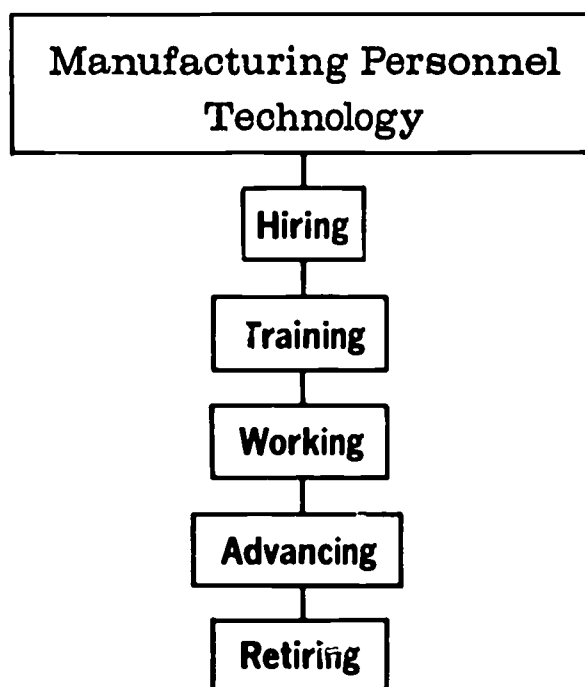

Fig. 4-6. Manufacturing personnel technology has five functions.
In manufacturing, *personnel technology* is the name given to (1) hiring, (2) training, (3) working, (4) advancing, and (5) retiring workers, Fig. 4-6. The technology of personnel work, then, is called the science of *hiring, training, working, advancing, and retiring*. Your mother finds jobs you can do well. Then she shows you how to do them. In the same way, personnel workers find what kinds of work are best for different people, what ways are best to teach them new jobs, and how to help people improve their work, Fig. 4-7. Every day more people see that if each person is to do his best work and be satisfied, those who manage him must know what kind of person he is and how he feels. Personnel programs are planned to find out how this can best be done.